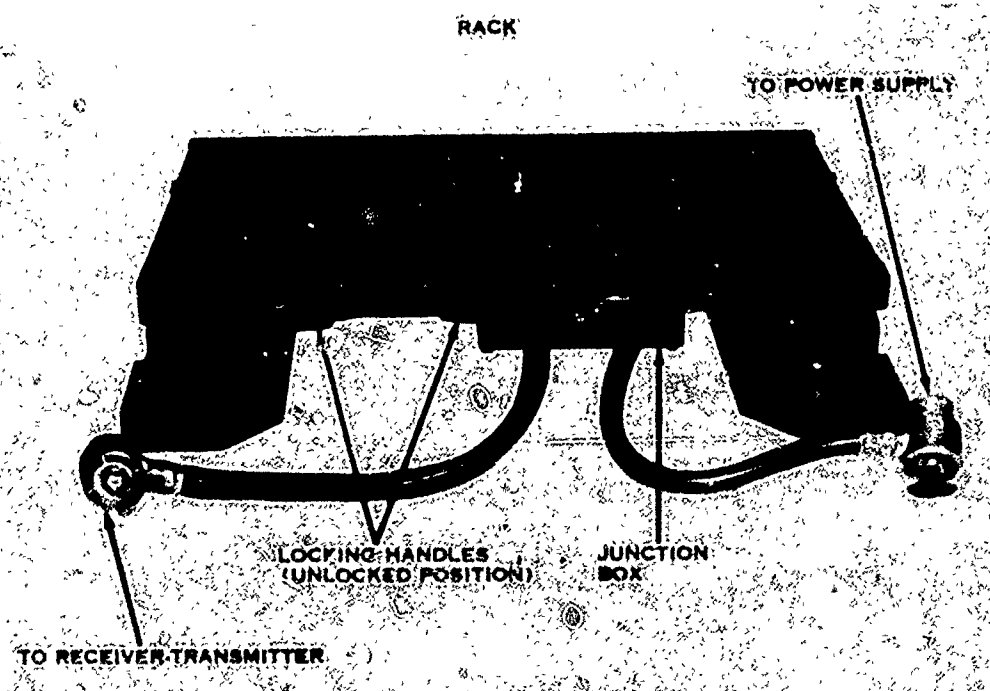

Figure 4-4. Mount MT-299/GR.
- (3) MT-299/GR (AN/VRC-10). (Figure 4-4)